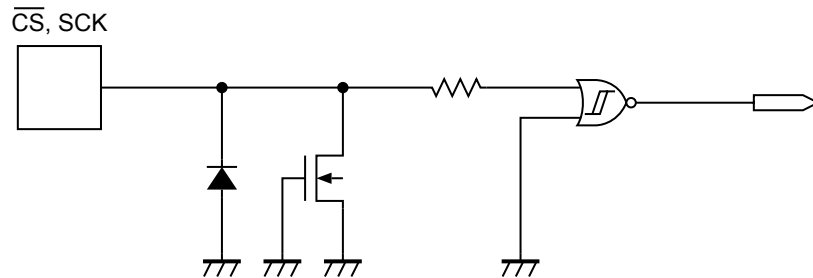

Figure 21  $\overline{\text{CS}}$ , SCK Pin
**Figure 21** and **22** show the equivalent circuits of input pins in S-25C080A. A pull-up and pull-down elements are not included in each input pin, pay attention not to set it in the floating state when you design.